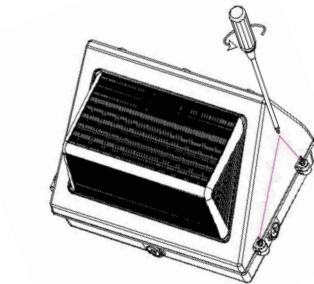

Fig. 9
2. Use a screwdriver to remove the screws on both sides of the front cover. (Fig. 9)